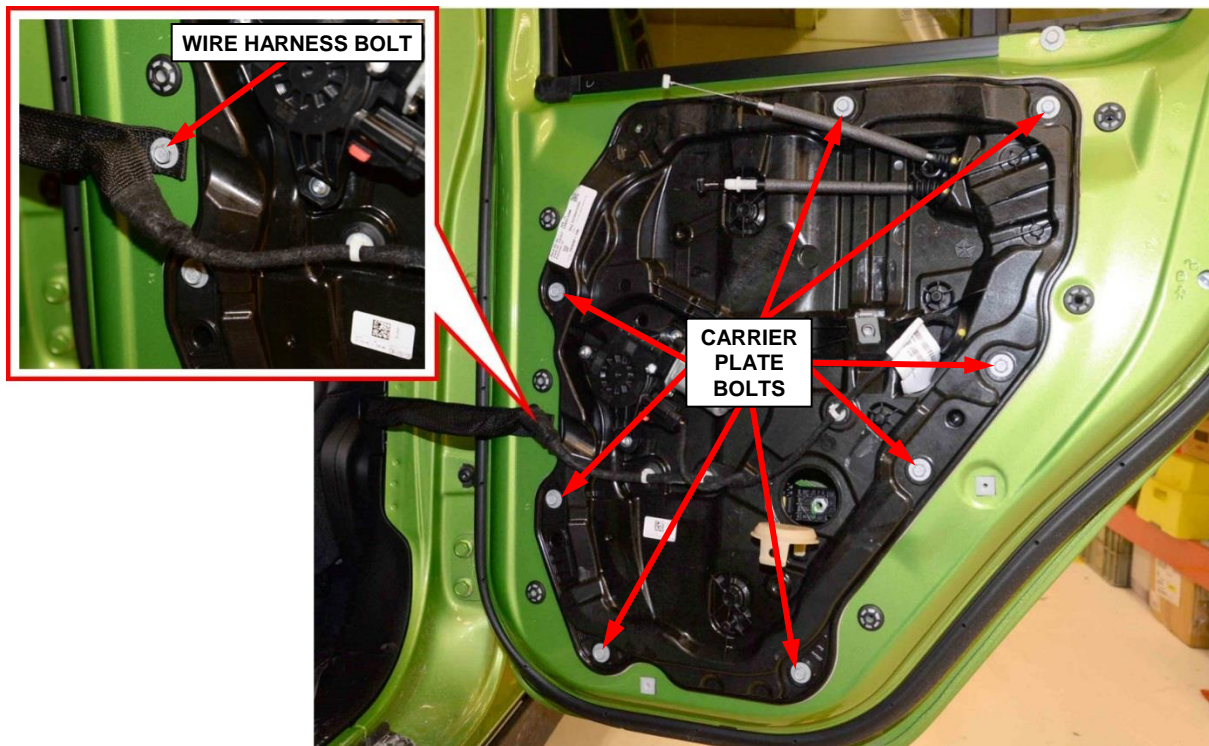

Figure 16 – Wire Harness and Carrier Plate
28. Remove the bolt securing the door wire harness to the front of the door (Figure 16).
29. Remove the eight carrier plate bolts then separate the carrier plate assembly from the door (Figure 16).
58. Install the eight carrier plate bolts and tighten to 7 N·m (62 In. lbs.) (Figure 16).
59. Position the door wire harness to the door and install the bolt, tighten to 7 N·m (62 In. lbs.) (Figure 16).